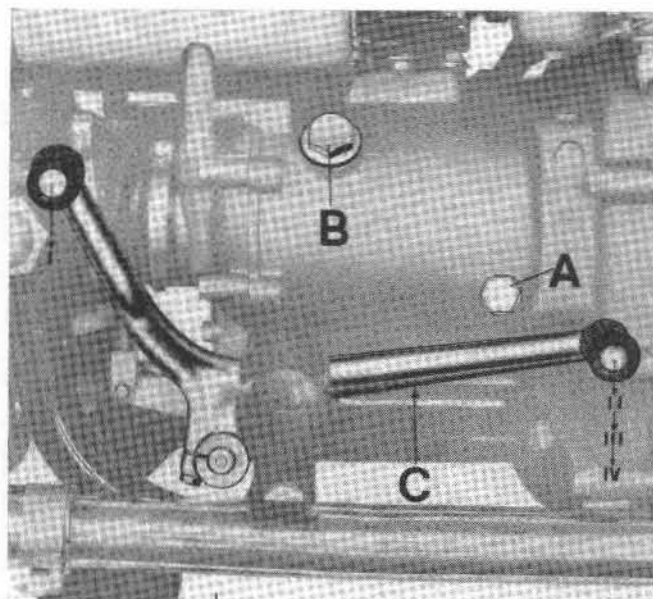

Fig. 75
### GEAR BOX CONTROL (see Fig. 75)
Before beginning to strip down the gearbox drain oil contained therein by unscrewing drain plug (see Fig. 75).
- Filler plug and drain plug (B and A on Fig. 75).